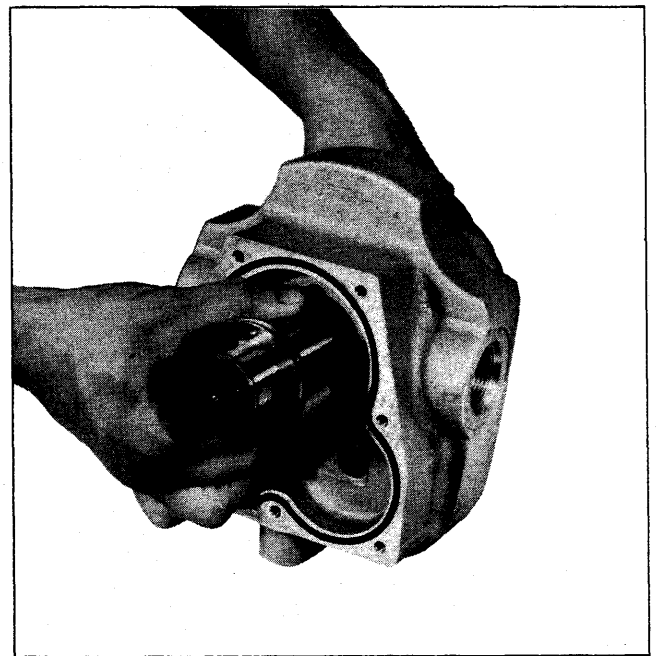

FIGURE 11
13.) Remove the shaft from the rear end cap. (Fig. 11.)